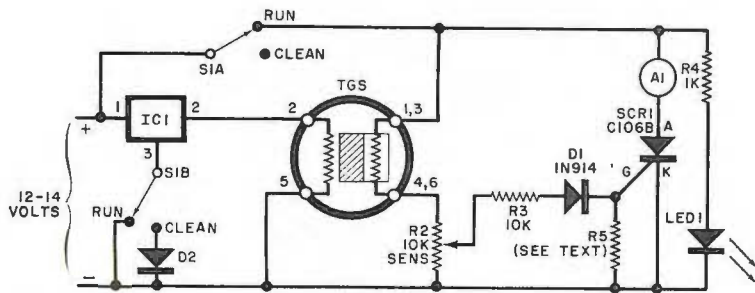

Fig. 2. Powered from a 12-volt dc source, this alarm is useful in trailers, campers, or boats. Operation is similar to home alarm.
**Mobile Alarm.** The circuit for a gas alarm system for car, boat, trailer, etc., is shown in Fig. 2. This circuit is similar